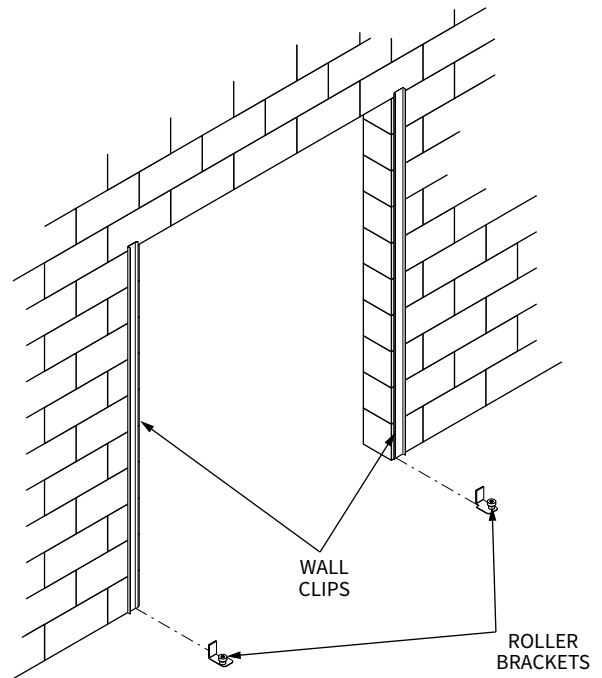

Figure 6: Installing Wall Clips and Roller Brackets
2. Attach the left, right or both bottom roller brackets to the wall through the two holes in the bottom of wall clip (Figure 6).